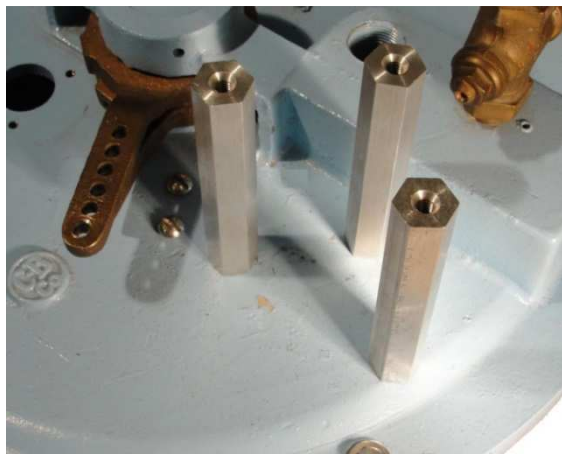

Figure 7: Standoffs Installed and Tightened
6. By hand, thread one $\frac{1}{4}$ "-20 x 1.25" stud into one end of a hex standoff until the stud cannot be threaded in any further. Repeat twice more so that all three standoffs have $\frac{1}{4}$ "-20 studs threaded into one end. Thread stud / standoff assemblies into holes that were just tapped in step 5. Tighten standoffs; however do not tighten to the point of twisting off the studs or stripping the threads out of the drawer. At this point, the assembly should look like Figure 7.